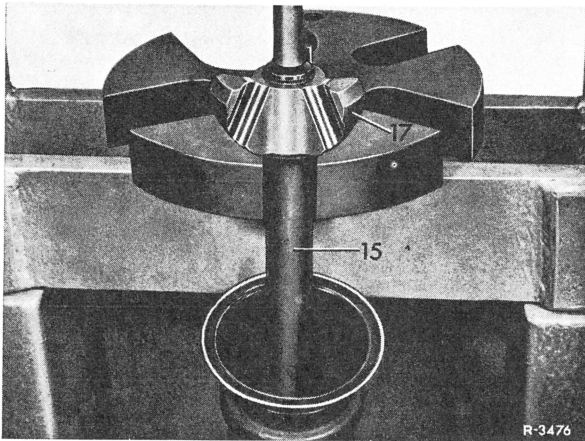

Fig. 3
3 Remove locking ring from groove in rear axle shaft and press spider joint hub (17) from rear axle shaft (Fig. 3).